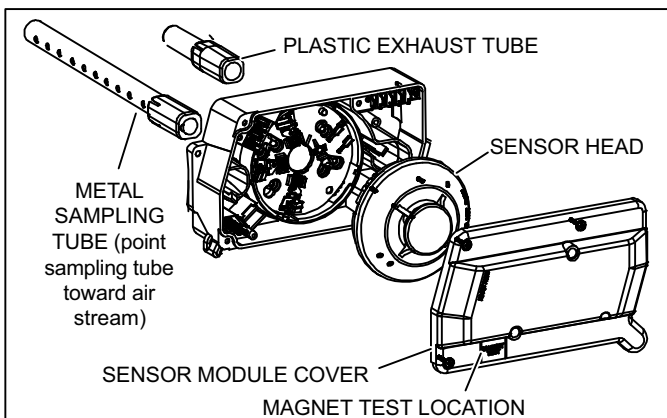

Figure 2. Smoke detector
2. Slide metal sampling tube and plastic exhaust tube onto back side of the sensor (see figure 2).